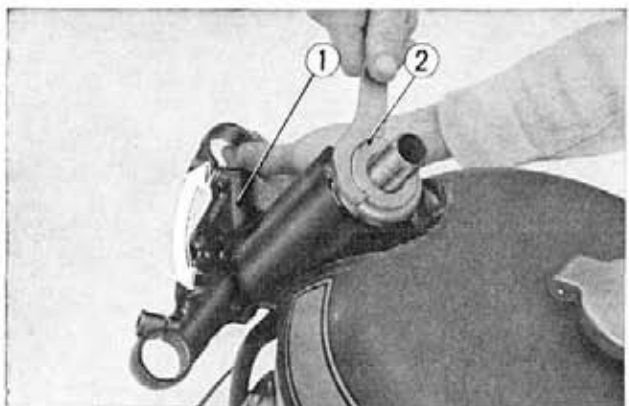

Fig. 11-7 ① Steering stem
2. Exercise care installing the steering stem into the head pipe so that the steel balls are not dropped. Install the top cone race and then screw on the steering stem thread so that there is no clearance between the steering stem and the head pipe in the vertical direction and that the handle turns lightly through the full range of travel. (Fig. 11-7)